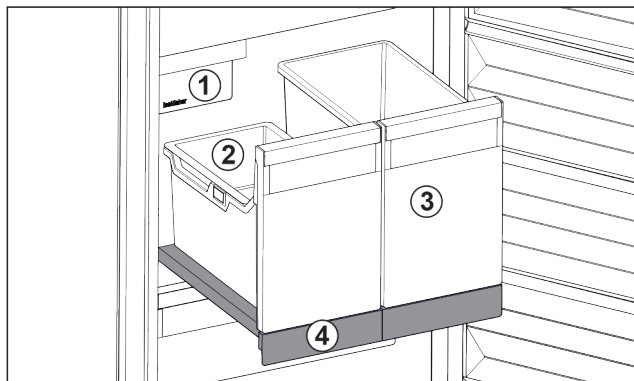

Fig. 99 Pull-out board with IceTower
There are two high (IceTower) containers on the pull-out board. Ice cubes from the IceMaker are collected and stored in the Fig. 99 (2) container. The container Fig. 99 (3) is suitable for storing tall foodstuffs or beverages such as pizzas or alcoholic drinks.